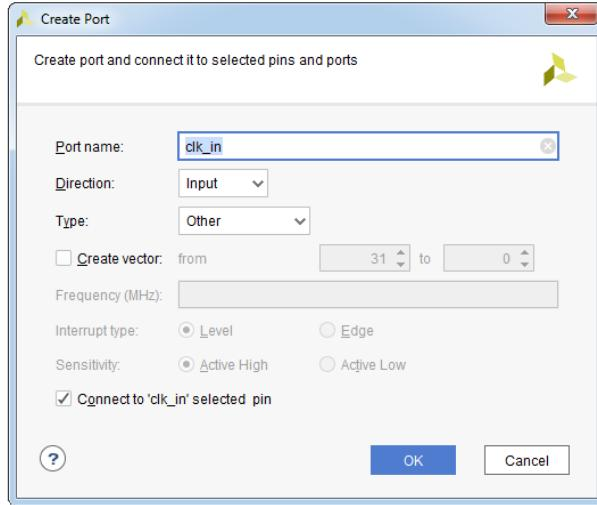

Figure 12.60: Create Port dialog box
- In the **Create Port** dialog box, check is the port name **clk_in** in the **Port name** field, leave all other parameters unchanged and click **OK**, see Figure 12.60.